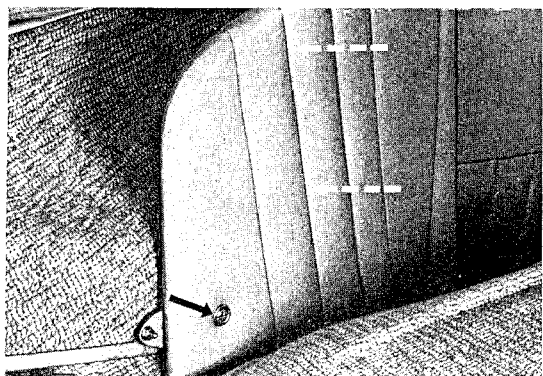

Fig. 132
3. Remove the side panels by removing the philips screw at the black arrow Fig. 132.